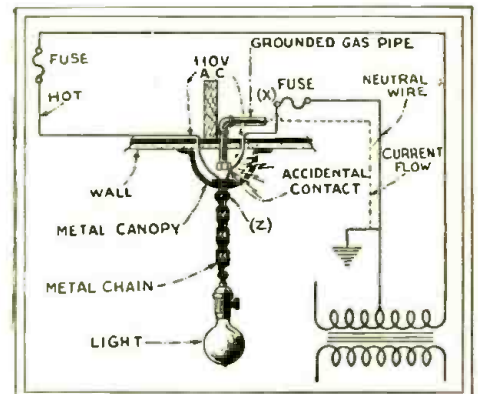

Fig. 2
stallation of this kind it is very seldom that the fixture is free from grounds. (See Fig. 2.)
In a fixture of the type shown in Fig. 2, where the wire is woven through the chain, a static charge is set up in this chain and, as long as everything is quiet, there is no trouble. But walk across the floor, or otherwise move or jar the chain, and a crackling or popping noise will be set up. The cure here is to tape the eyelet (Z) and thus insulate the chain from the canopy.